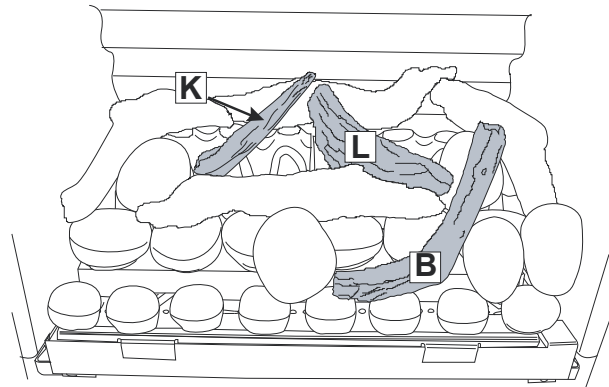
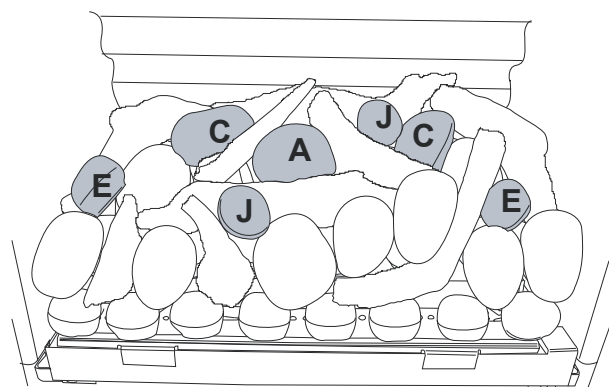

Figure 40
Figure 42
7. Continue laying the driftwood pieces and the pebbles as shown in **Figure 40** to **Figure 42**.